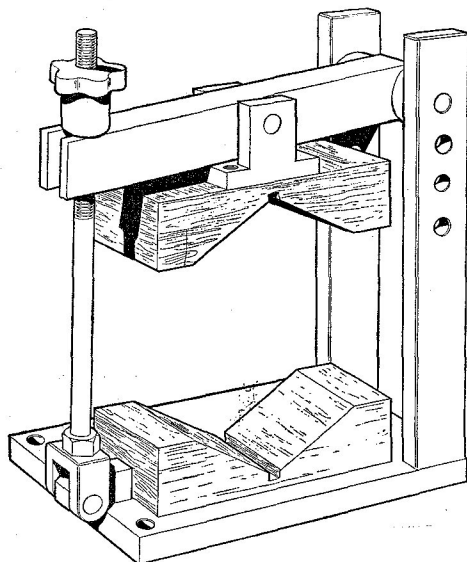

Fig. 13. Motor unit clamp
(1) The motor speed should now be set by retarding the brush gear from its geometric neutral axis by 10.5 degrees ( $\pm 4.5$  degrees). To determine the geometric neutral axis proceed as follows.
(2) Isolate the field coils from the brush boxes and insert one special brush SPE.17385 (fig. 14) in the first of each pair of brush holders. Secure each with screw (22) and shakeproof washer (23). Do not connect the field leads. Clamp the motor unit in a bench clamp, similar to that illustrated in fig. 13, to facilitate brush setting and retardation.